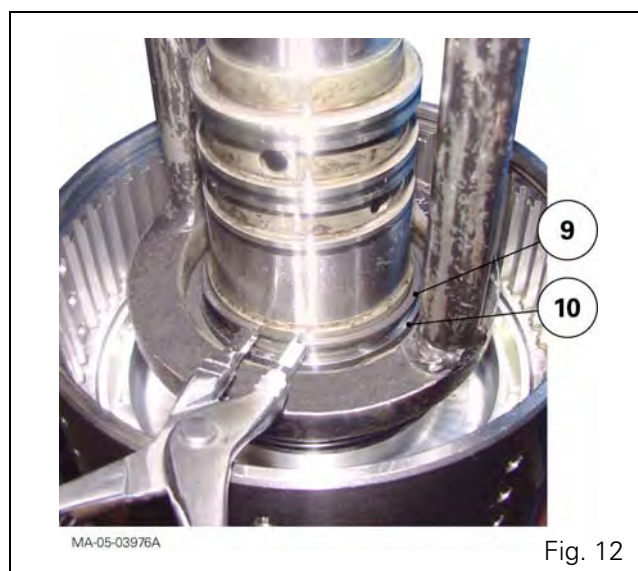

Fig. 12
41. Remove the snap ring (9) and washer (10) (Fig. 12). Release the press and take off the Belleville washers (31) and thrust washer (13).
42. Drive off the piston (32) using compressed air. Discard the seals with square sections (33) (34).